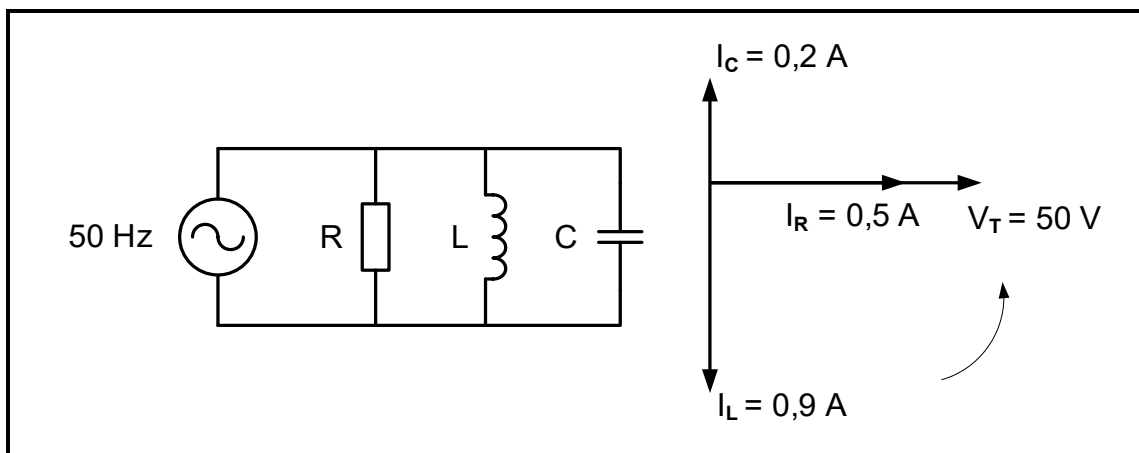

FIGURE 3.4: RLC PARALLEL CIRCUIT AND PHASOR DIAGRAM
- 3.4 FIGURE 3.4 below shows an RLC parallel circuit with its corresponding phasor diagram. Answer the questions that follow.
- 3.5 State whether the circuit in FIGURE 3.4 on the previous page is more capacitive or more inductive. Give a reason for the answer. (2)
- 3.6 Refer to FIGURE 3.4 on the previous page and explain how an increase in the supply frequency will cause the circuit to resonate. (3)